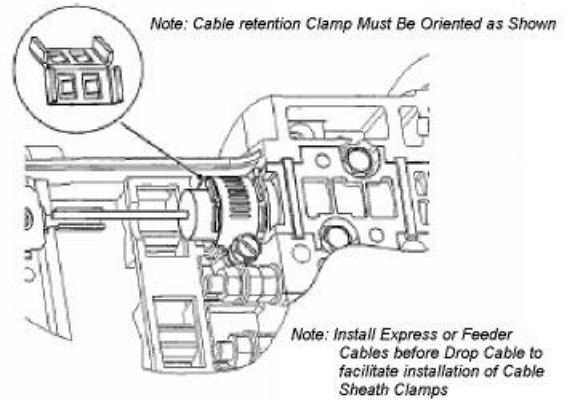

Figure 5 - Attaching Cable and Central Strength Member to Center Section
11.01 Attach the cable to the closures' center section by installing a hose clamp over the cable, sheath retention clamp and cable retention grommet. Sheath retention clamp should be oriented as shown. Do not fully tighten the cable clamp at this time. Refer to **Figure 5 – Attaching Cable and Central Strength Member to Center Section**.